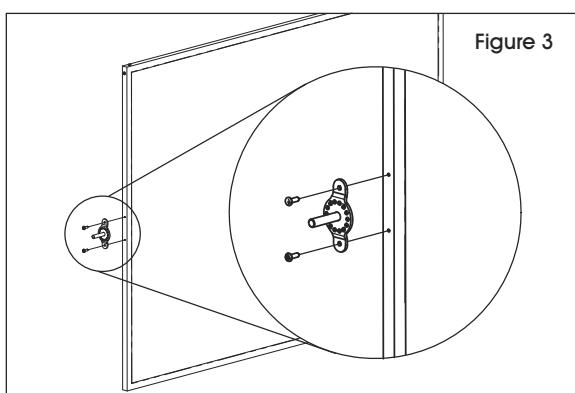

Figure 3
4. Attach one pivot stem to both sides of the panel using two 5/8" screws for each pivot stem. Fully tighten screws. (See Figure 3)